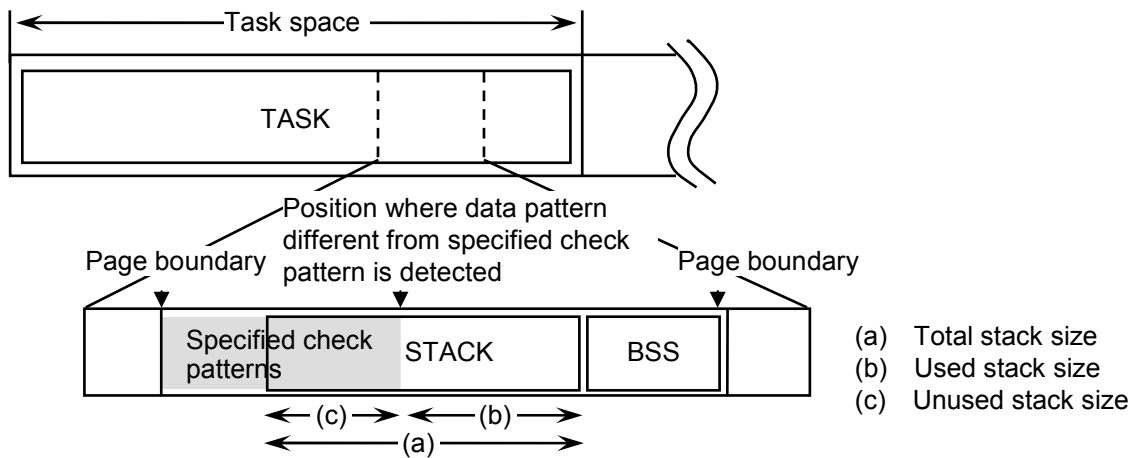

Figure 3-35 Sizes Displayed in the [Display of used stack size] (size display) Window
- Figure 3-35 shows the correspondence of sizes displayed in the [Display of used stack size] (size display) window to sizes in the task-operating space.